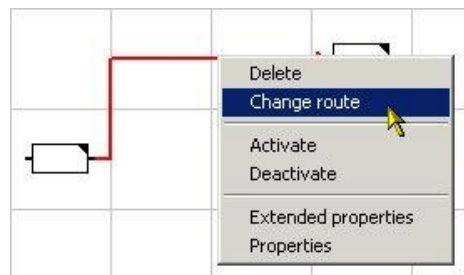

Figure 39: Connecting Line – Change Route Context Menu
In the Figure 39 below, the first process is moved downwards. By using these two functions, you can change the route of the connecting line.
- 2) Press the right mouse button to open the context menu. *Please refer to the Figure 39.*